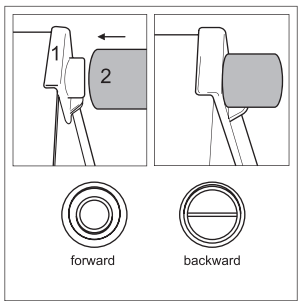

Figure 1. Installation of limit stops (Applicable to some models only)
- Install the limit stops to the upper corners on the rear wall of the refrigerator as shown in Fig.1. The stops are supplied in the door basket inside the refrigeration compartment; (Applicable to some models only)